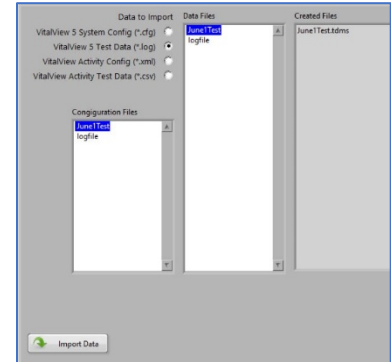

Fig 7-2
1. Click the Import button on the left side of the Import/Export screen (Fig 7-2 should appear)
- If you select a Data type file to import, the “configuration Files” column will appear below the “Data Files” column (Fig 7-2)